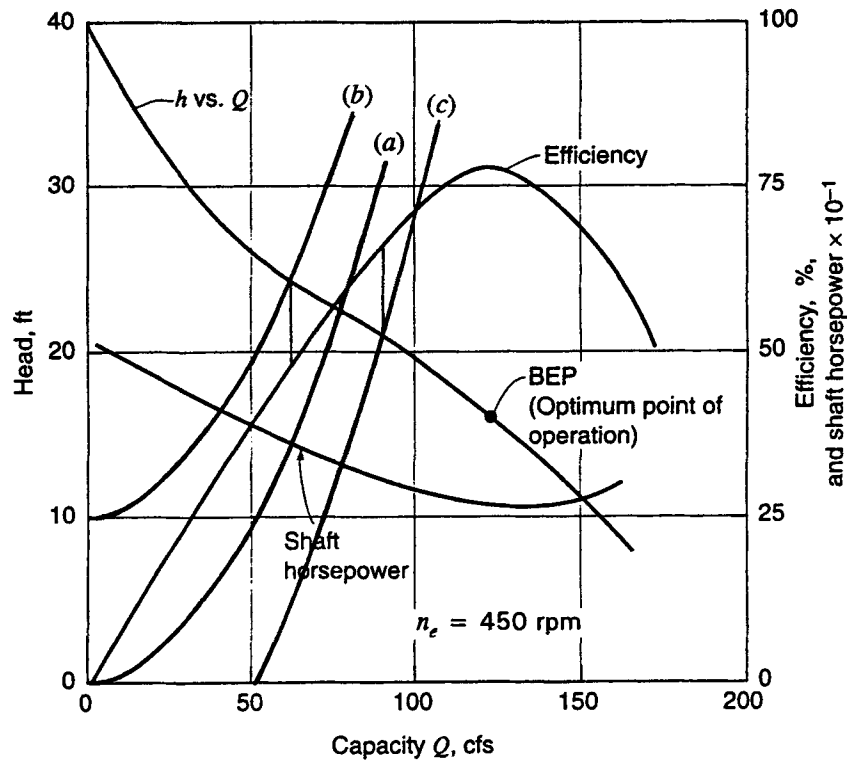

Figure 15.7, modified
15.15 A pump whose characteristics are shown on Fig. 15.7 when operating at 450 rpm is used to pump water from reservoir A to reservoir B through a 24-in-diameter pipe ( $f = 0.028$ ) of length 170 ft. Neglecting minor losses, find the flow rate and pump efficiency for the following conditions; (a) reservoir water-surface elevations identical; (b) water surface in reservoir B is 10 ft higher than that in reservoir A; (c) water-surface elevation in reservoir B is 10 ft lower than in reservoir A.
Pump characteristic curve is given in Fig. 15.7 (see below).
Prob. 15.15: A pump with the characteristics of Fig. 15.7 (see with Solution 15.15) pumps water from reservoir A to reservoir B through a 170-ft-long pipeline ( $f = 0.028$ ,  $D = 24$  in). Find  $Q$  and the pump  $\eta$  for (a) reservoir water surface elevations identical, (b) water surface B 10 ft higher than A; (c) water surface B 10 ft lower than A.
The pump characteristic curve is given in Fig. 15.7 (see previous problem).